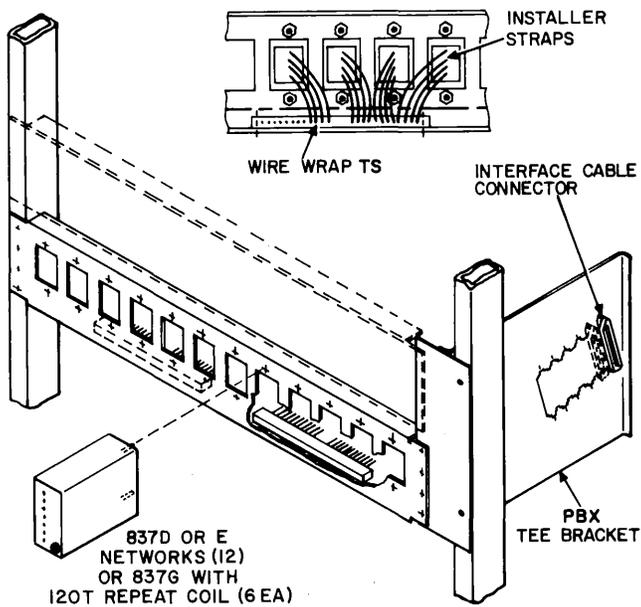

Fig. 11—J99380B Apparatus Panel
4.22 The J99380B panel, Fig. 11, has 12 mounting spaces which may be used to mount 837-type networks and/or 120T repeating coils. When the